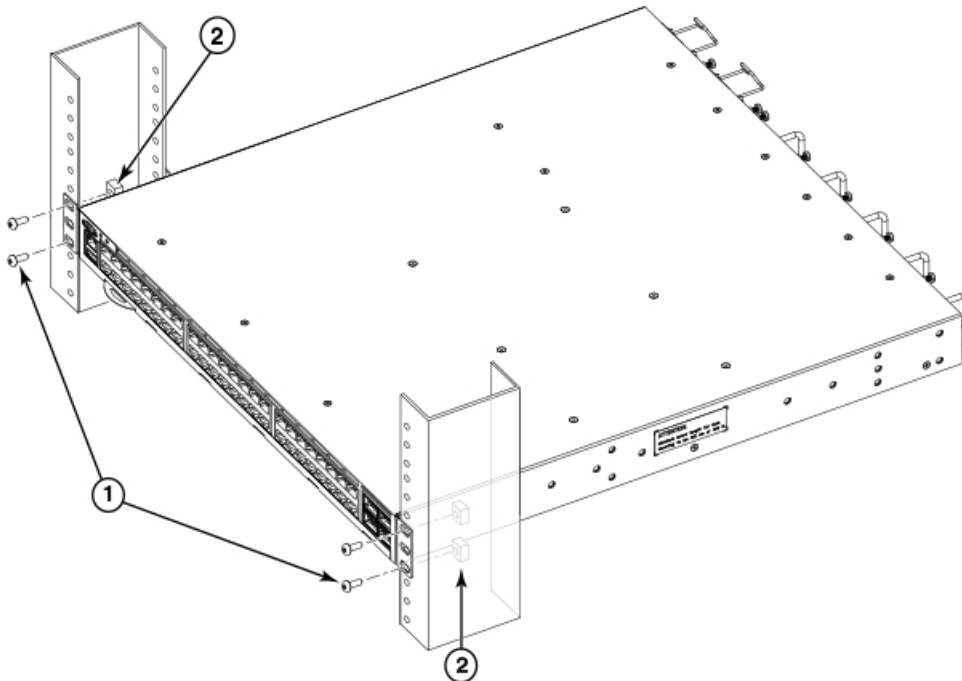

Figure 17. Attaching front brackets to a rack
1. Position the device in the rack, as shown in (Figure 17 on page 30), providing temporary support under the device until the rack kit is fully secured to the rack.